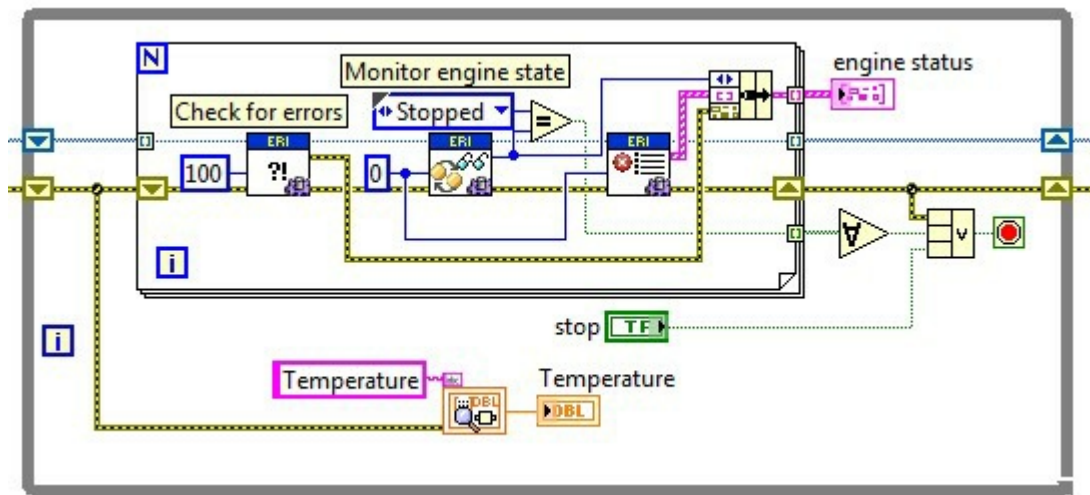

Figure 2.10
9. Finish the code as shown in Figure 2.10. This basically implies putting the CVT Temperature reading inside the while loop and wiring the error cable to it.
10. Rearrange the front panel Indicators such that the new **Temperature** indicator is visible as shown in Figure 2.10.